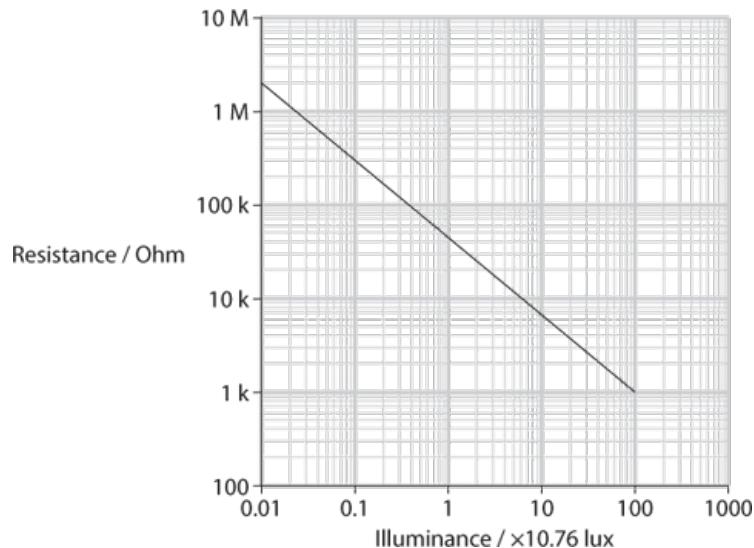

Figure 8.6: The relationship between illuminance and the LDR resistance.
- The relationship between illuminance and the LDR resistance is given in the manufacturer's data sheet as the log-log graph shown in Figure 8.6.